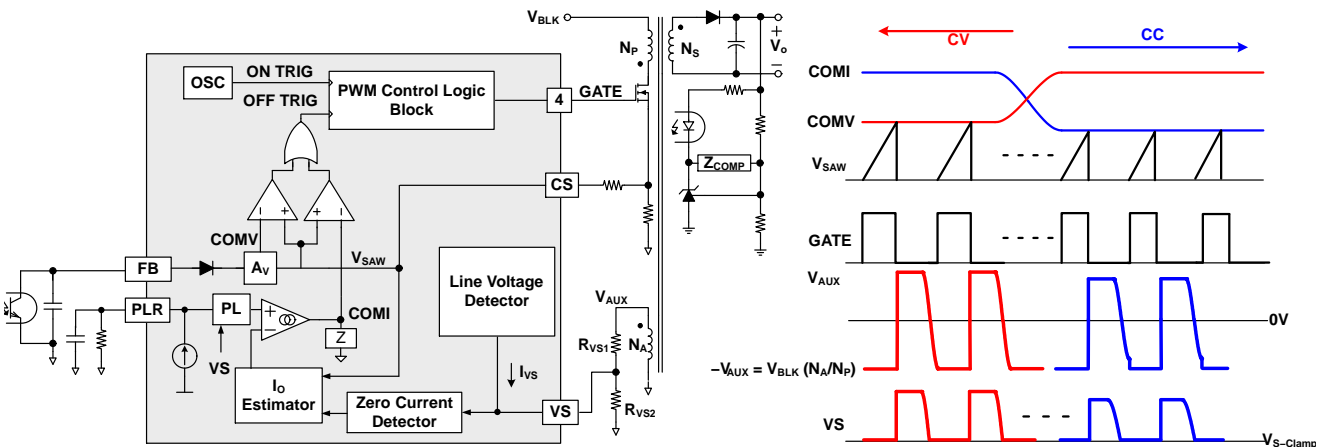

Figure 27. Simplified PWM Control Circuit and PWM Operation for CV/CC Regulation
Figure 27 shows a simplified CV / CC PWM control circuit of the FAN604P. The Constant Voltage (CV) regulation is implemented in the same manner as the conventional isolated power supply, where the output voltage is sensed using a voltage divider and compared with the internal reference of the shunt regulator to generate a compensation signal. The compensation signal is transferred to the primary side through an opto-coupler and scaled down by attenuator  $A_V$  to generate a COMV signal. This COMV signal is applied to the PWM comparator to determine the duty cycle.
These two control signals, COMV and COMI, are compared with an internal sawtooth waveform ( $V_{SAW}$ ) by two PWM comparators to determine the duty cycle. Figure 27 illustrates the outputs of two comparators, combined with an OR gate, to determine the MOSFET turn-off instant. Either of COMV or COMI, the lower signal determines the duty cycle. During CV regulation, COMV determines the duty cycle while COMI is saturated to HIGH level. During CC regulation, COMI determines the duty cycle while COMV is saturated to HIGH level.
Where Lm is the transformer's primary side magnetizing inductance. Since the output current error is proportional to the line voltage, the FAN604P incorporates line voltage compensation to improve output current estimation accuracy. Line information is obtained through the line voltage detector as shown in Figure 27. ICOMP is an internal current source, which is proportional to line voltage. The line compensation gain is programmed by using CS pin series resistor, RCS\_COMP, depending on the MOSFET turn-off delay, tOFF,DLY. ICOMP creates a voltage drop, VOFFSET, across RCS\_COMP. This line compensation offset is proportional to the DC link capacitor voltage, VBLK, and turn-off delay, tOFF,DLY. Figure 29 demonstrates the effect of the line compensation.